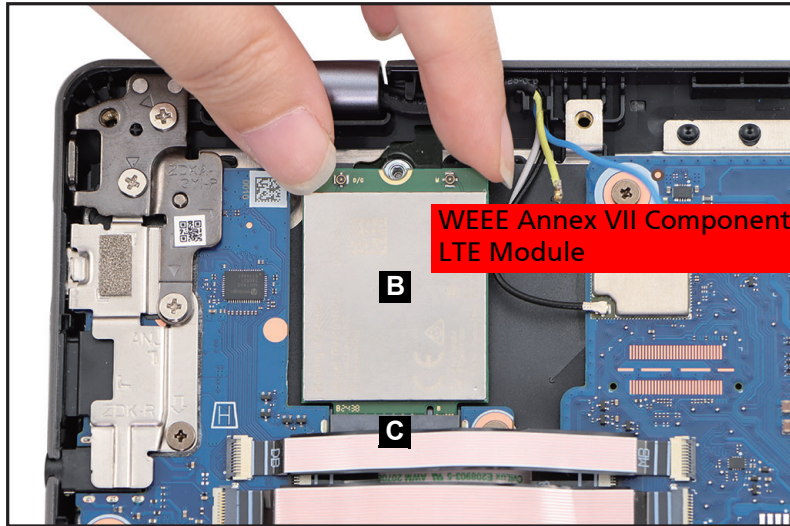

Figure 1-24. LTE Module Removal
3. Disconnect the LTE module (B) from the mainboard connector (C) (Figure 1-24). Then remove the LTE module.